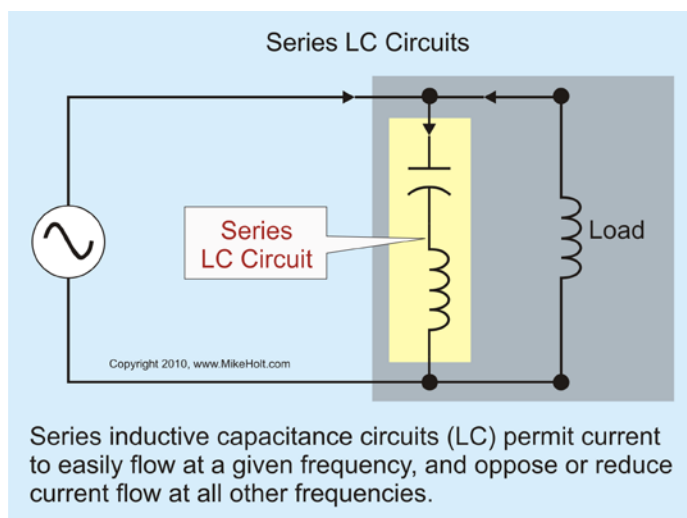

Figure 3–24
Series inductive capacitance circuits (LC) permit current to easily flow at a given frequency, and oppose or reduce current flow at all other frequencies. **Figure 3–24**
In a series LC circuit, as the frequency approaches the resonance frequency, the impedance of the LC circuit decreases so that the only opposition to current flow will be the conductor resistance. **Figure 3–25**